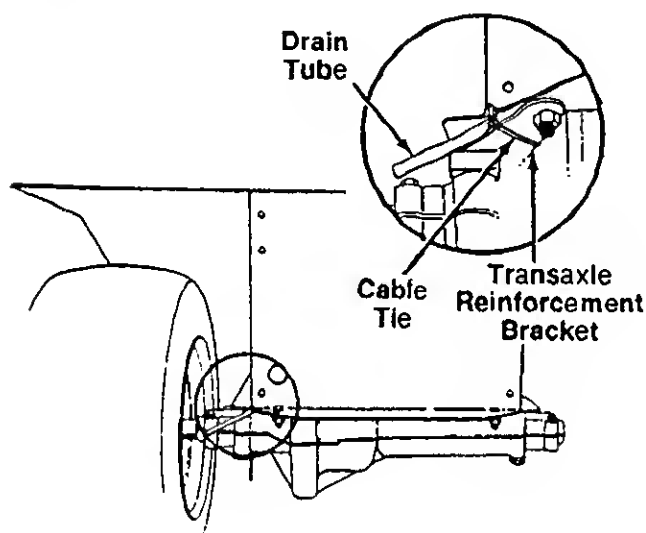

FIGURE 4.
5. Secure the battery drain tube to the transaxle support bracket, using the cable tie as shown in figure 4.